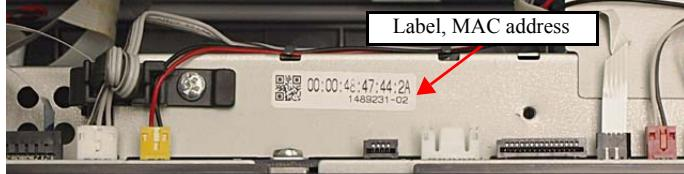

Figure 4-237. Position for the MAC Address Label
- When replacing the Main Board, the MAC address need to be set if the EEPROM data could not be read from the old Main Board. In this case, attach the new "Label, MAC address (Parts number: 1489232)" to the position shown in Fig. 4-237 and execute "5.2.6 "MAC Address Setting" (p223)".